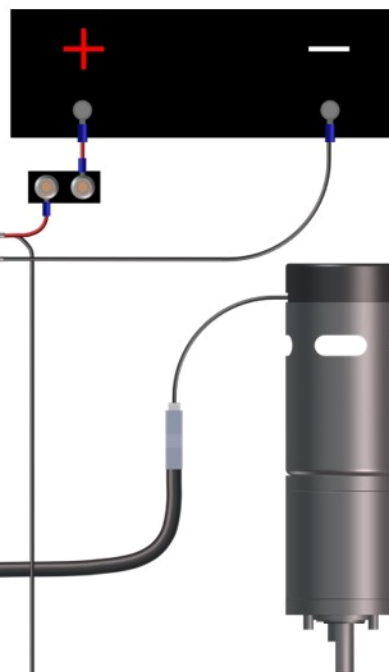

FIG. 1
1. Remove motor retention screw (See Fig. 1)